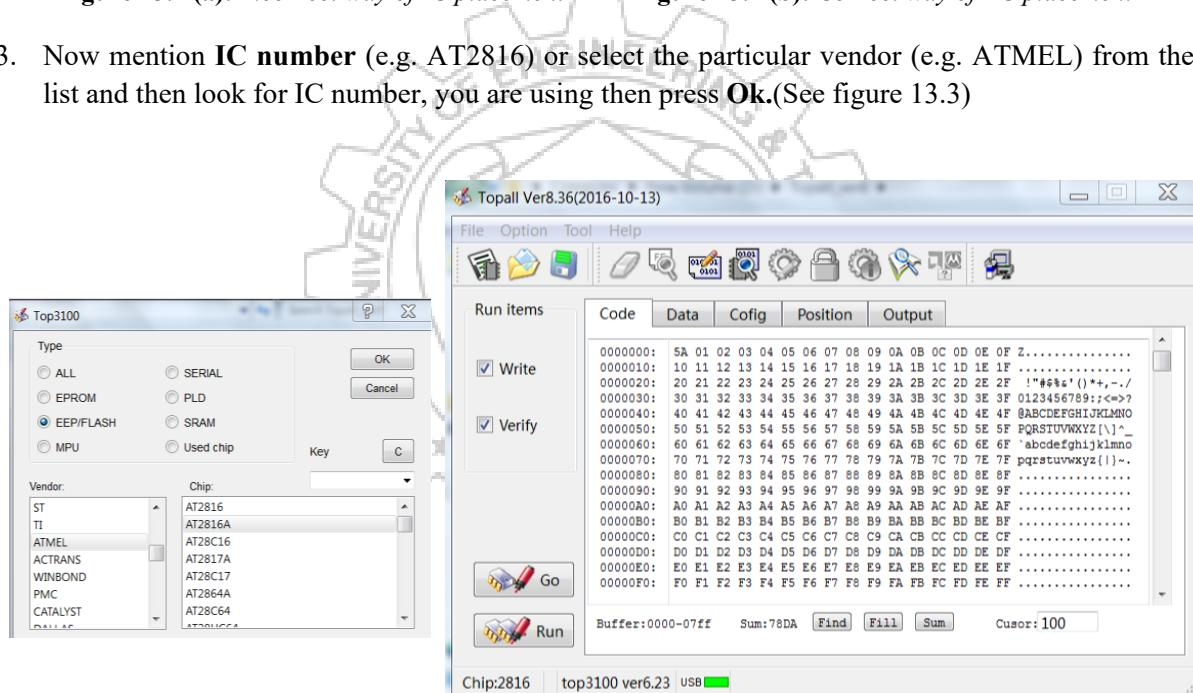

Figure 13.3: Writing to Memory Chip
3. Now mention **IC number** (e.g. AT2816) or select the particular vendor (e.g. ATMEL) from the list and then look for IC number, you are using then press **Ok**. (See figure 13.3)